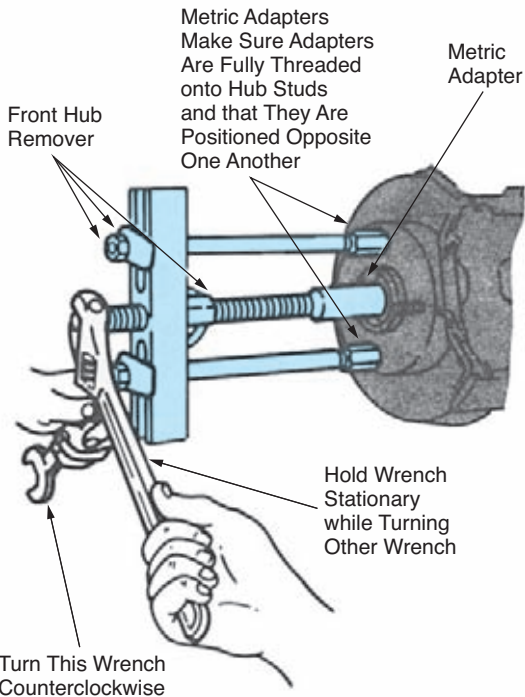

FIGURE 10-32 This puller is being used to pull the hub outward and off the splines of the outboard CV joint. (Courtesy of Ford Motor Company)
4. Pry the lower control downward to separate it from the steering knuckle as you pull the steering knuckle outward to separate the front hub from the CV joint (Figure 10-31). On some vehicles it is necessary to install a puller to push the CV joint inward (Figure 10-32). Never hammer on the end of the CV joint to drive it inward.